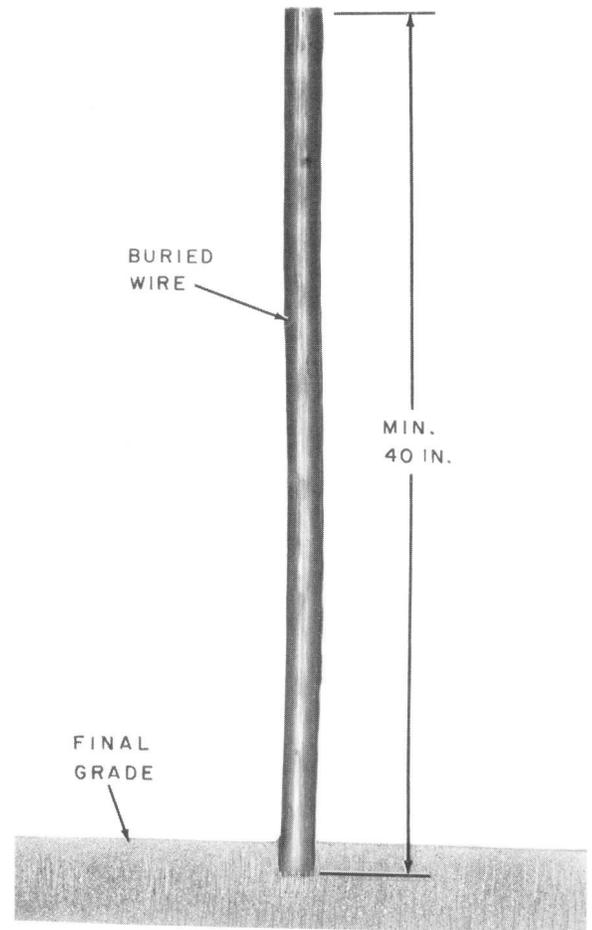

Fig. 3—Wire Ends Required
3.01 When possible the plowing or trenching of buried wire should be completed before terminal is placed. The length of buried wire ends required at terminal location should extend a minimum of 40 inches above final grade (Fig. 3).